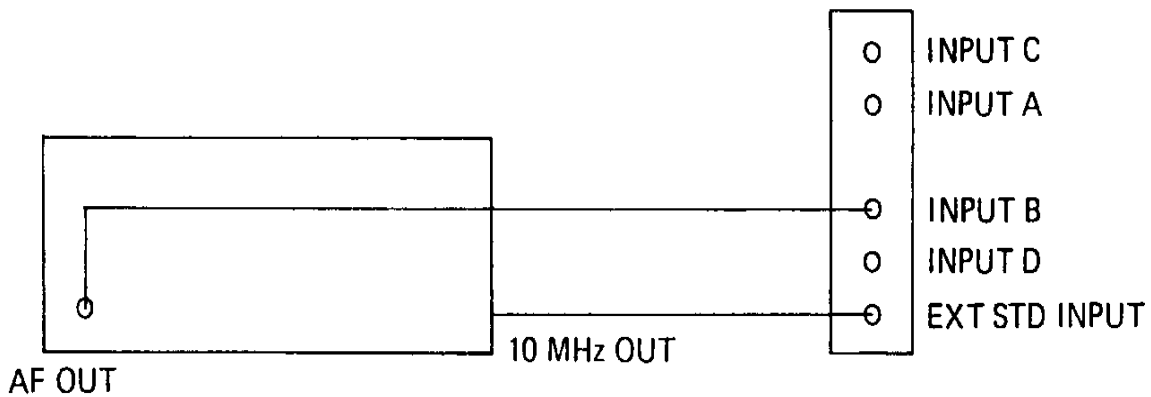

Figure 4-3, Input B Low Frequency Sensitivity Test Configuration
- 4.1.7.1 Connect the Function Generator to the 2251A as shown in **Figure 4-3**.